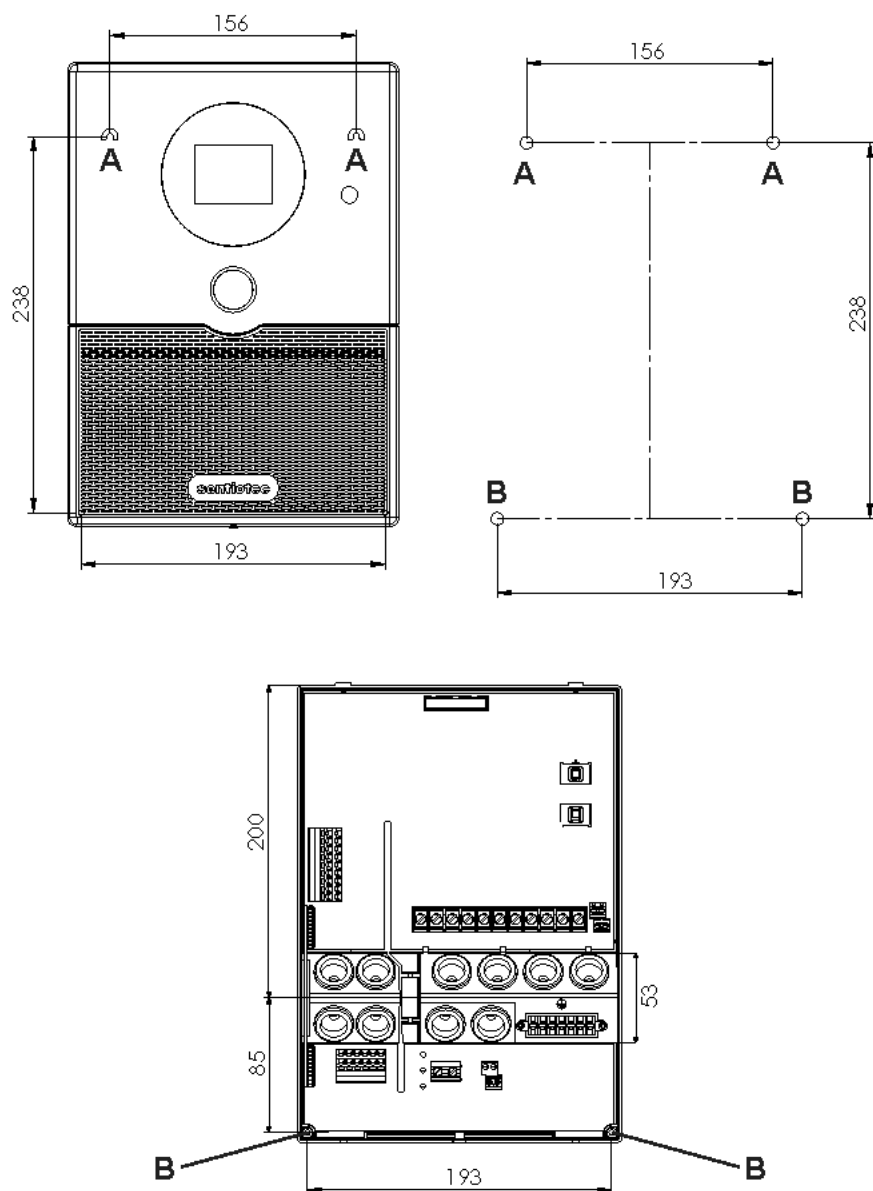

**Fig. 1** Position of the attachment device and the installation holes (dimensions in mm)
1. Screw two chipboard screws (3 x 25 mm) into the wall of the sauna at a height of approx. 1.70 m and leaving a protruding length of 7 mm. The two screws must be placed at a distance of 156 mm from each other (see **Fig. 1**).
4. Fasten the sauna control unit onto the cross-head screws using attachment device **A** as an aid (see **Fig. 1**).
5. Screw two chipboard screws (3 x 25 mm) into the lower fastening holes **B** (see **Fig. 1**).